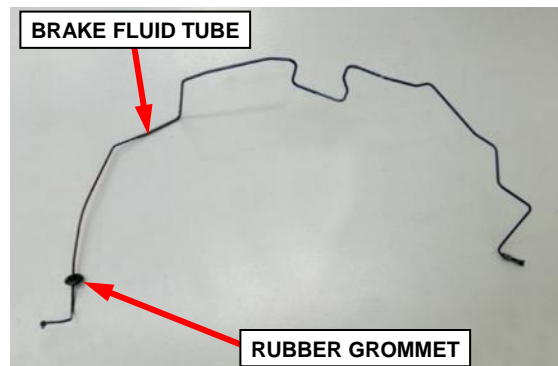

Figure 43 – Brake Fluid Tube
62. Remove the rubber grommet from the brake fluid tube (Figure 43).
63. Remove the brake fluid tube from the engine compartment (Figure 43).
64. Remove the rubber grommet from the brake fluid tube (Figure 43).
65. Scrap the old brake fluid tube (Figure 43).
66. Install the rubber grommet to the new brake fluid tube (Figure 43).
70. Install the brake fluid tube rubber grommet to the strut tower (Figure 43).